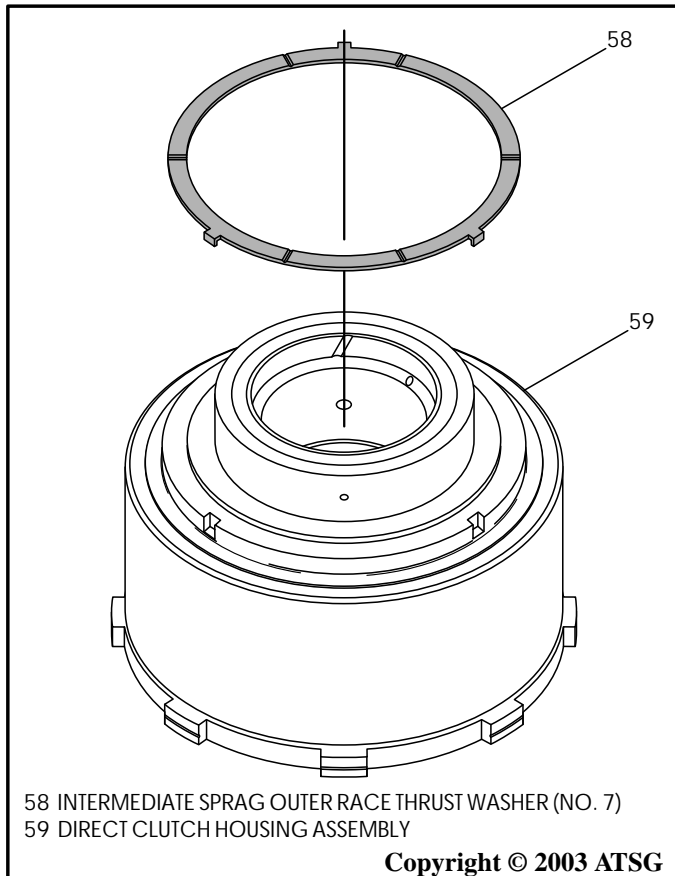

Figure 114
6. Place the direct clutch housing on a flat work surface in the direction shown in Figure 114.
7. Install the number 7 thrust washer, as shown in Figure 114, and retain with Trans-Jel®.